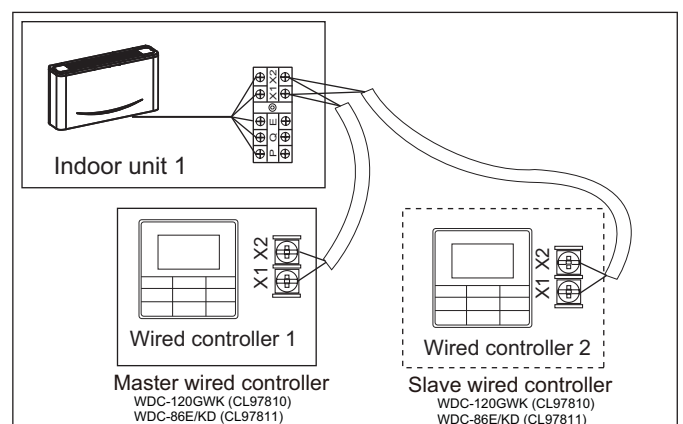

Figure 6.7
- ◆ Use 1 wired controller to control 1 indoor unit or 2 wired controllers (one master and one slave controller) to control 1 indoor unit (see Figure 6.7);